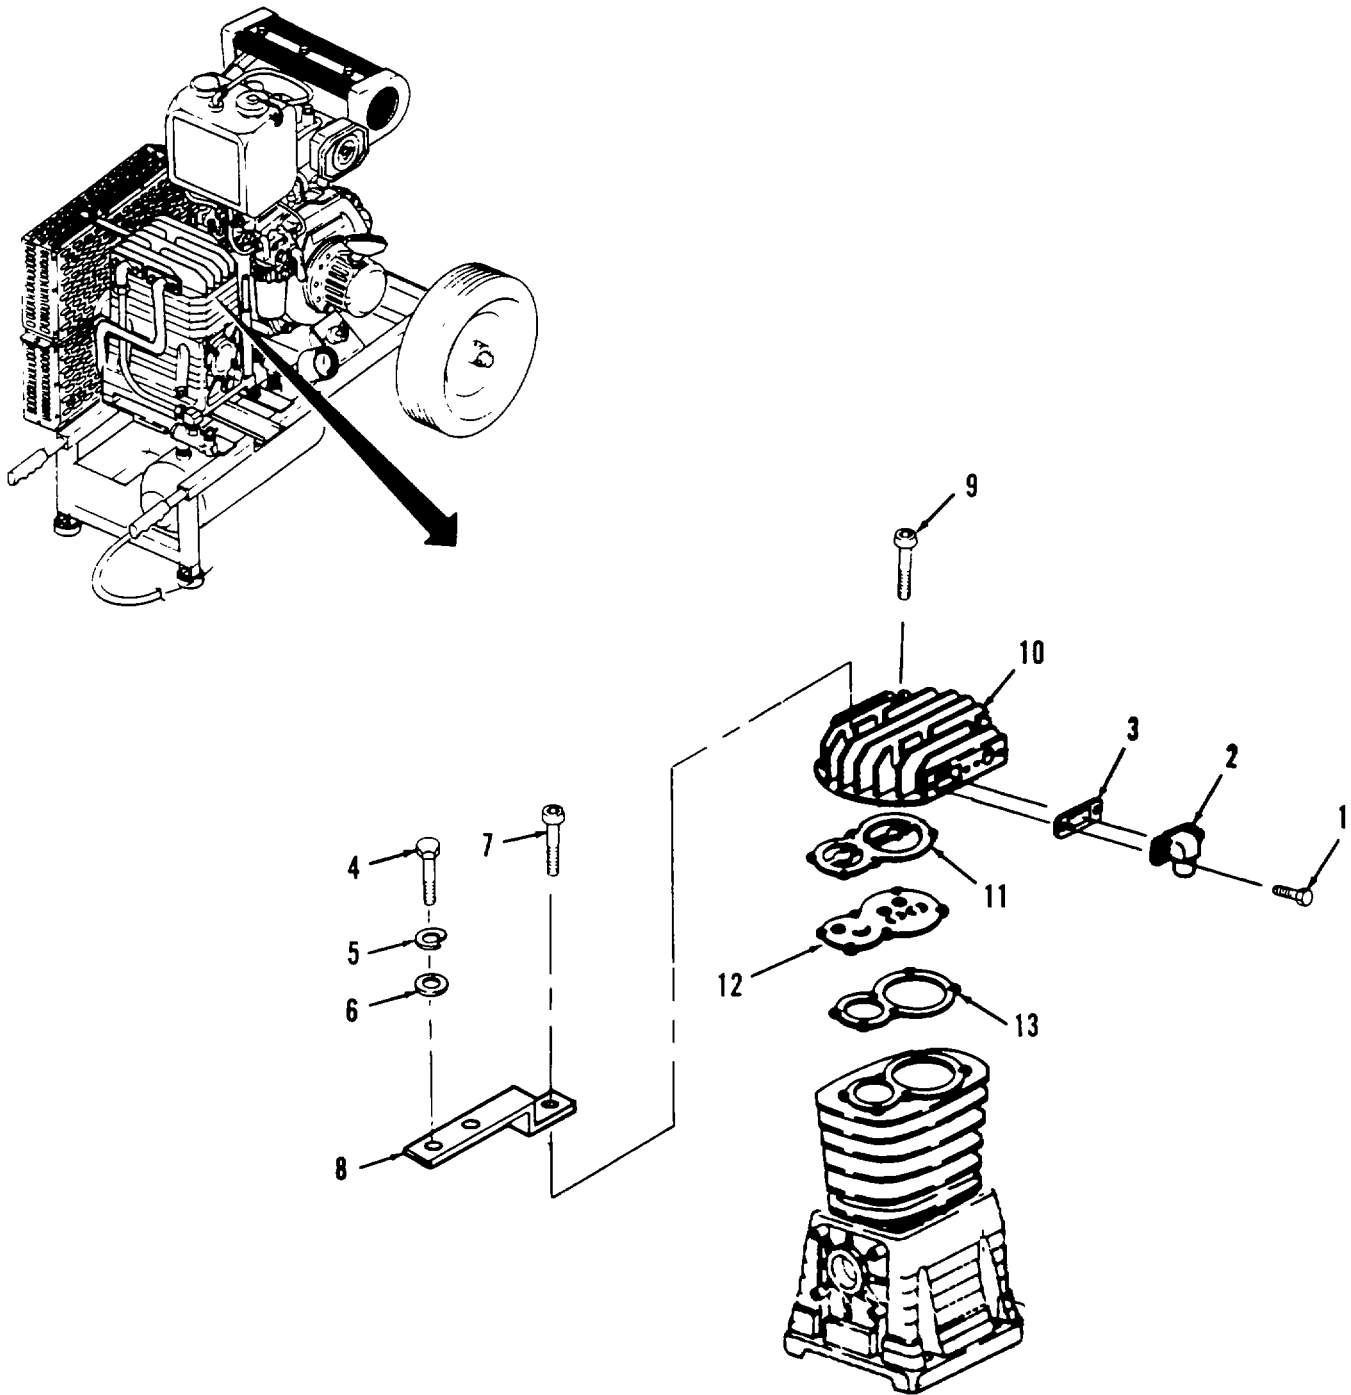

Figure 5-12. Valve Head and Valve Plates Replacement.
a. Removal. (Refer to Figure 5-12).
- (1) Remove two screws (1), outlet adapter (2), and outlet gasket (3). Discard outlet gasket.
- (2) Remove two screws (4), lock washer (5), flat washer (6), screw (7), and bracket (8).
- (3) Remove five bolts (9) and head (10).
- (4) Remove valve gasket (11), valve plate assembly (12), and head gasket (13). Discard valve gasket and head gasket.